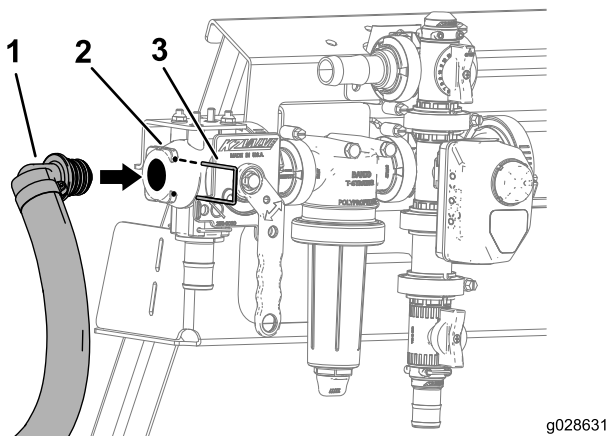

Figure 23
4. Slide a loosened hose clamp over the open end of the hose (Figure 23).
5. Install the open end of the hose into the eductor valve and secure the hose using a retainer pin (Figure 23).